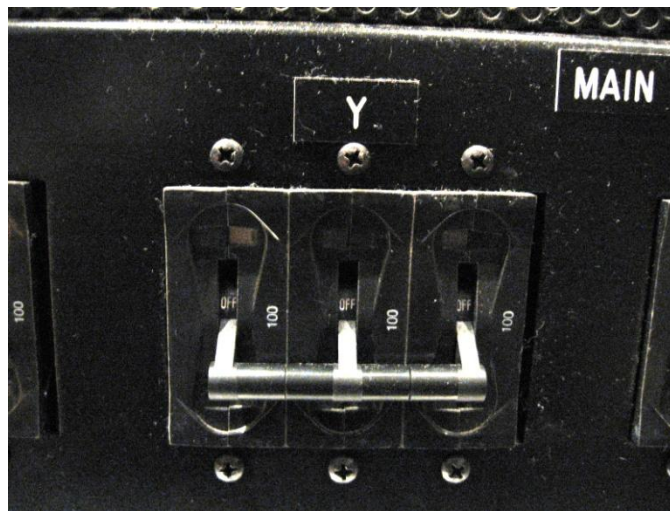

Figure 20 - Breaker for the Y phase (out of shot to the left is the X breaker, to the right is the Z breaker)
- After power is on, you can turn on the dimmer by flipping the large breakers usually located on the back of the unit (see Figure 20). There are usually three (one for each phase), marked “X”, “Y”, and “Z”. There may be extra breakers, but those are only used if there are less than three phases of power running.3) Make sure lights have been hung and connected.